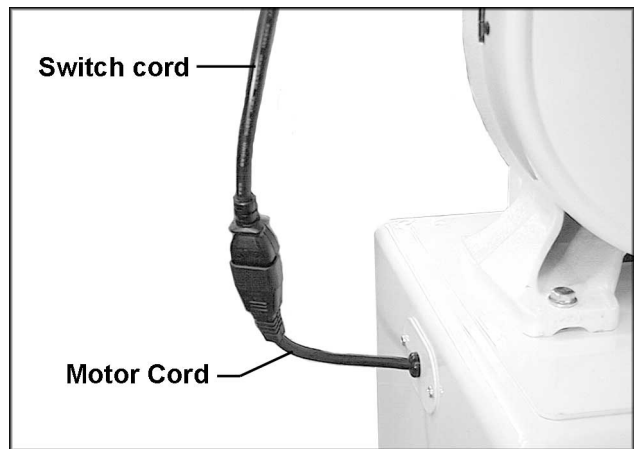

Fig. 13a
16. Connect the plugs of the motor cord and switch cord (Fig. 13a).